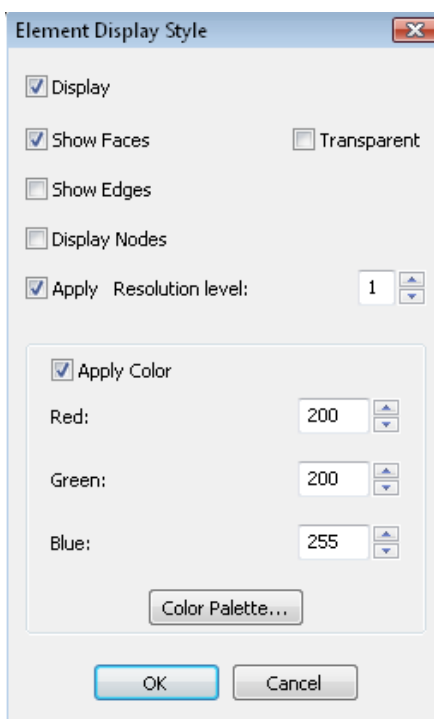

Figure 9.10: Element Display Style Window.
- Again right-click on the mesh while holding down the *shift-key* and select: **Selected Elements** → **Display Style** to view a pop-up window shown in Figure 9.10.